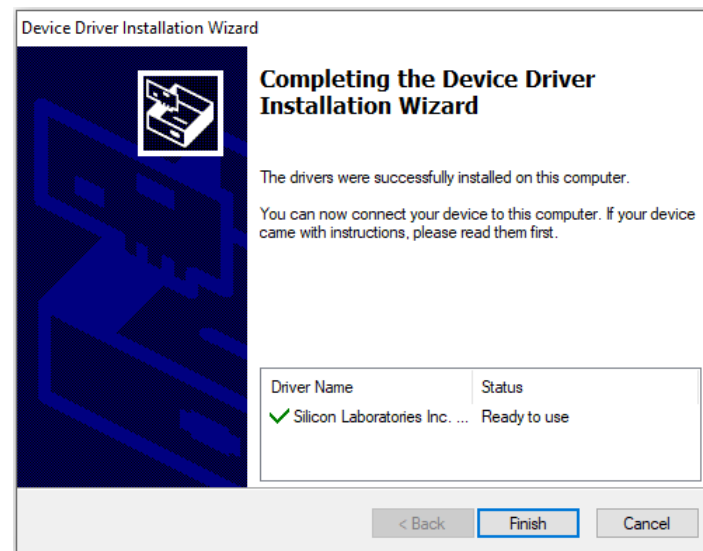

Figure 8: Driver Set-Up Success
4. Wait for the status screen to verify that installation is complete (see Figure 8).